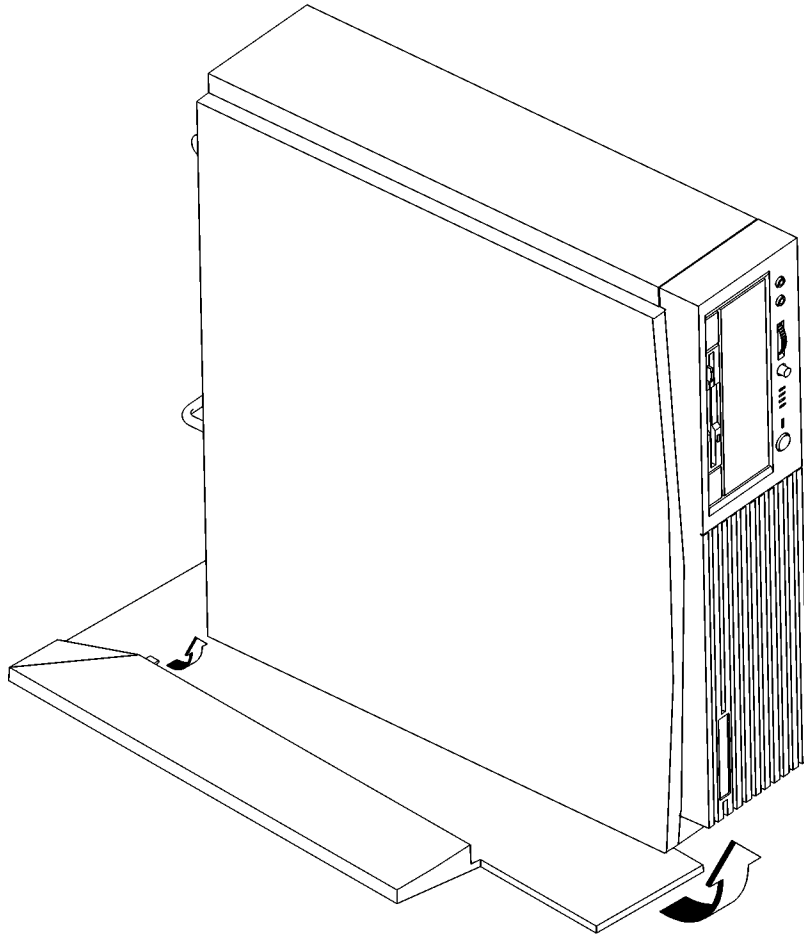

Figure 20
- 5 Remove the floor stand from the system unit (if used), as shown in Figure 20.